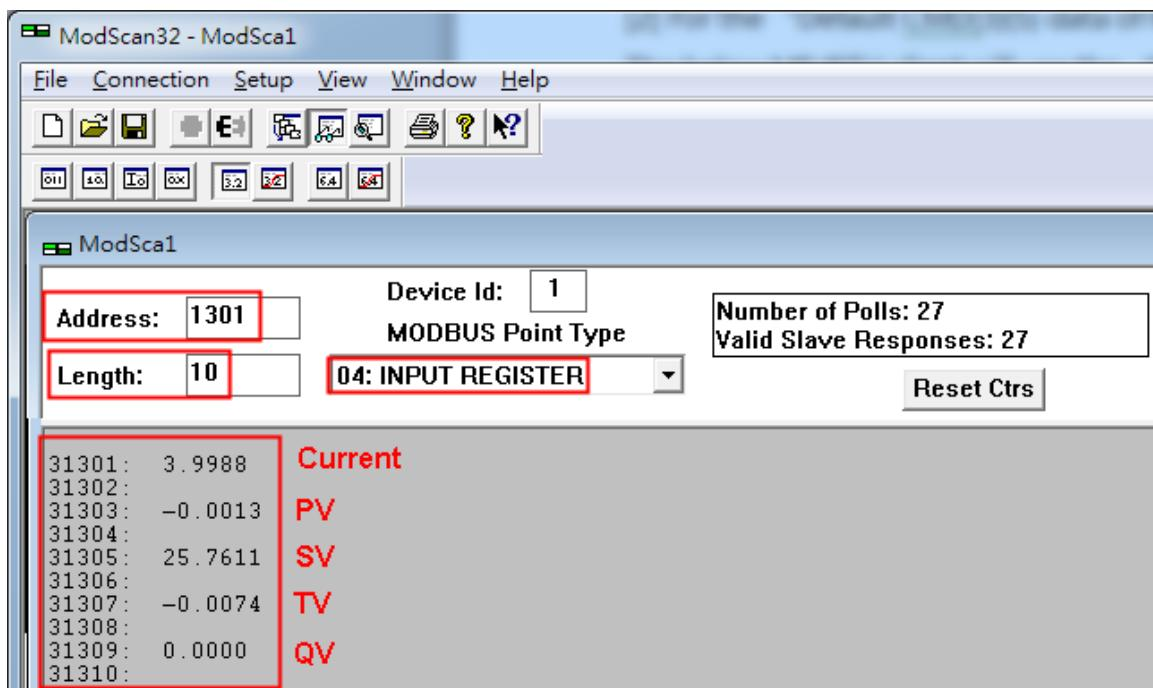

Figure 3-7 : The CMD(3) data of HART device
<6> The CMD(3) data of HART device (Figure 3-7).